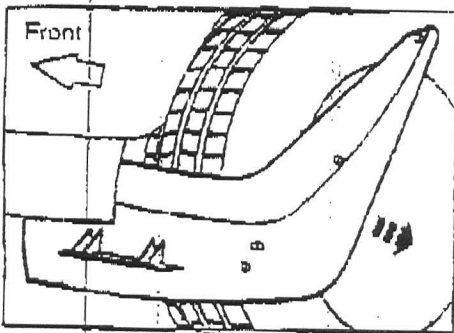

Fig. 3
5. Remove the splash guard from the vehicle. (See Fig. 3)